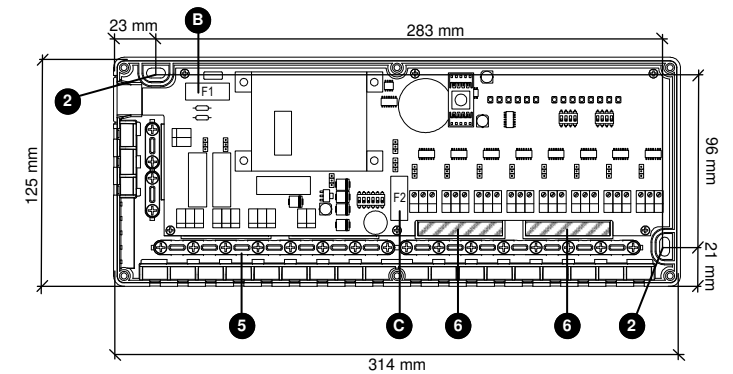

Fig. 2: Internal view and parts.
F1 (⊗ of Fig. 2) protects the control unit power supply at 230V~ **F2** (⊙ of Fig. 2) protects the power supply of transmitters only.
- Fix the device base to the wall using the two holes for screws indicated in 2 Fig. 2
Using a screwdriver, remove the base wedges as indicated in 6 Fig. 2. Now introduce the cables through the openings in the base, up to the clamps.